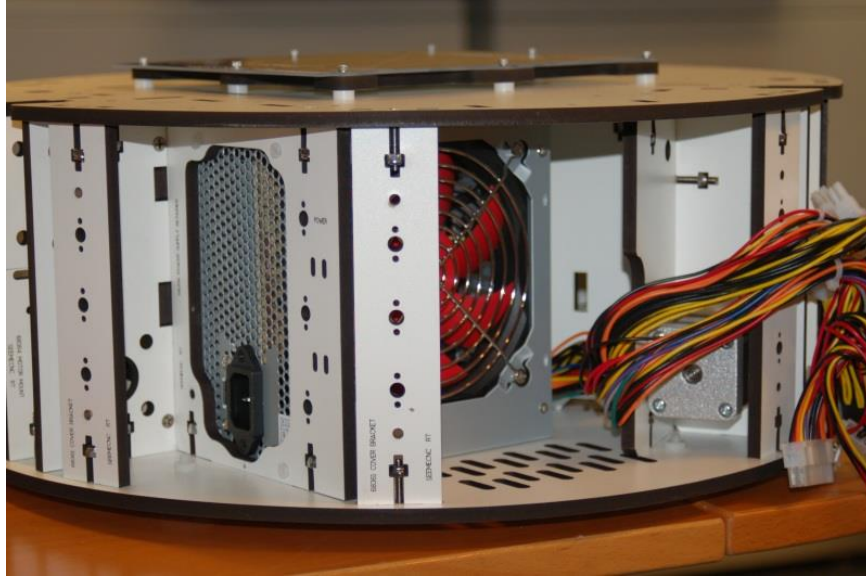

Figure 23 - Power Supply Installation
6.1 – Install the power supply as shown in Fig. 23. The power supply is attached to the power supply mount using four #6-32 1/2" Nylon pan head screws. You'll need your flat tip screwdriver for this.